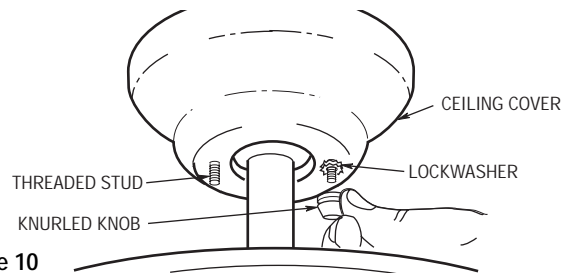

Figure 10
- 4. Lift the ceiling cover up to the threaded studs and turn until studs protrude through the holes in the ceiling cover (Figure 10).
- 5. Secure the ceiling cover in place by sliding lockwashers over the threaded studs and installing the two knurled knobs (supplied). (Figure 10.) Tighten the knurled knobs securely until the ceiling cover fits snugly against the ceiling and the hole in the ceiling cover is clear of the downrod. Your fan is now wired to be turned on and off from the fan switch.